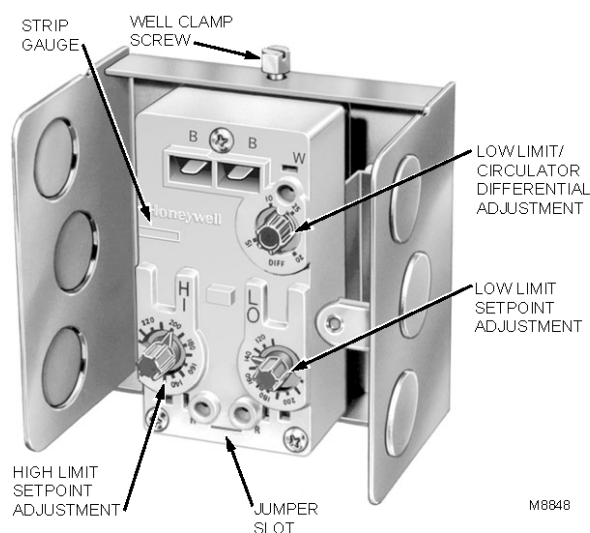

Fig. 4. L6081A with cover removed to show adjustments.
7. Loosen the wall clamp screw three or four turns., move the screw in and out and not how it moves the well clamp. See Fig. 4. Loosen the screw enough so that when the screw is pushed inward, the T-shaped clamp guide is at the far end of the slot in the case.
Use the following procedure when connecting wires to the B-B tab terminals (Fig. 4):
Use the following procedures when connecting wires to the R-R terminals (Fig. 4):
When using the controller field addable jumper (Fig. 4), connect terminals R-R. When the jumper is added, make sure that the two prongs of the jumper face the center of the controller.
With the cover off, set the high limit adjustment at the temperature desired but *not* higher than recommended by the boiler manufacturer (Fig. 4).